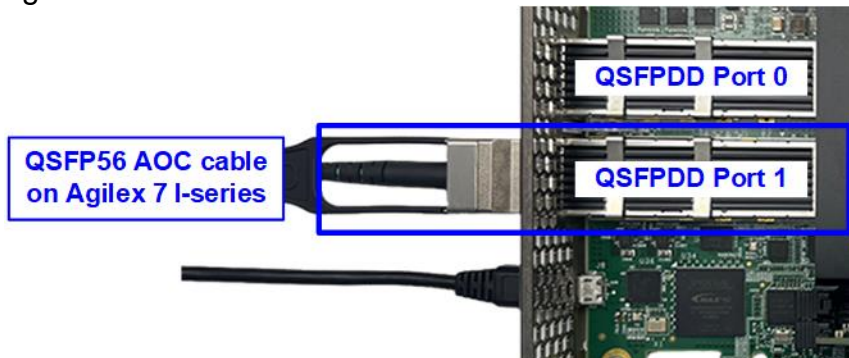

Figure 2-3 200G Ethernet connection
- 3) Establish a connection between the FPGA board and the PC by connecting a 200G Ethernet cable. Insert QSFP56 AOC cable between the FPGA board and the PC, as shown in Figure 2-3.